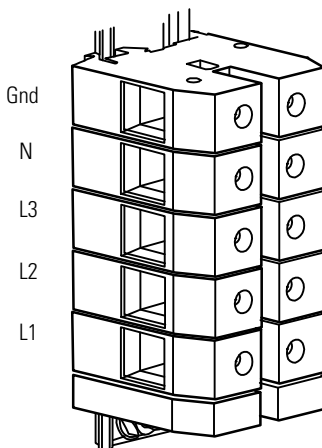

Figure 8. RPM-3U/3Ui Terminal Block
8. Connect the input wires to the input terminal block according to Figure 8 and Table 1.